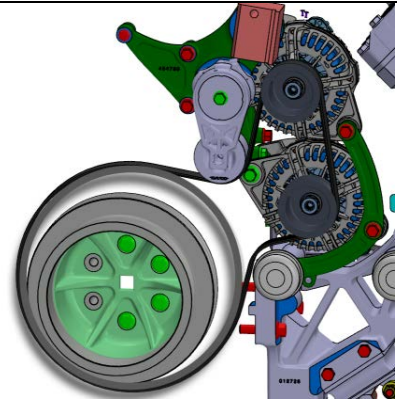

FIGURE 30
39. Reinstall the alternator belt. To do so, rotate the automatic tensioner using a ½ square drive breaker bar and install the belt as shown on FIGURE 30.